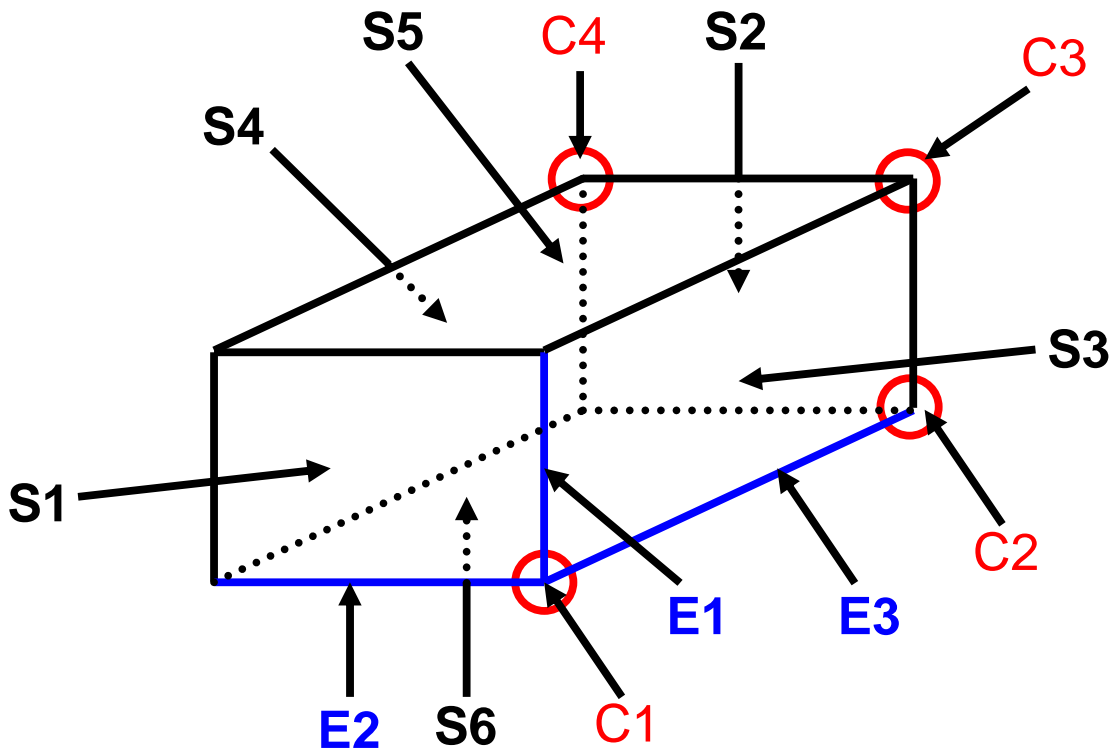

Figure 9-1
2. To perform corner drops according to Figure 9-1 (C1~C4) on the weakest corner of DUT.
3. To perform flat drops according to Figure 9-1 (S1~S6) with impact on the flats.
4. To perform edge drops according to Figure 9-1 (E1~E3) with impact on the edges.